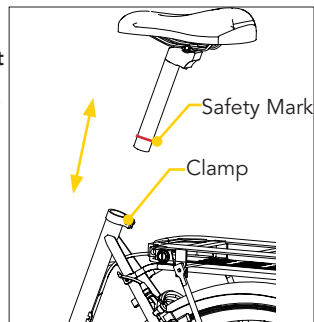

Fig. 6
- Tighten the screw to secure the seat in place (Fig. 6).